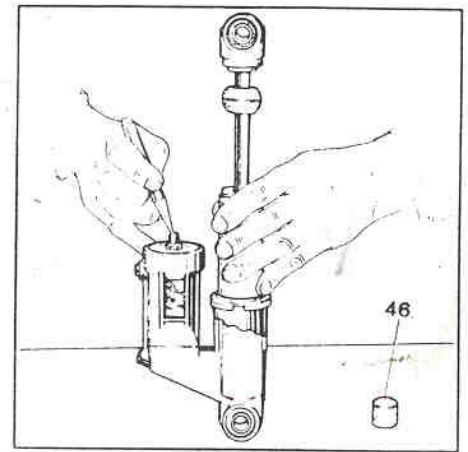

FIG. 2
During the operation in fig. 2 some oil may leak; this means that the rubber bladder is faulty. Loosen slowly the screw and O-ring (44) until the oil stops leaking under pressure.